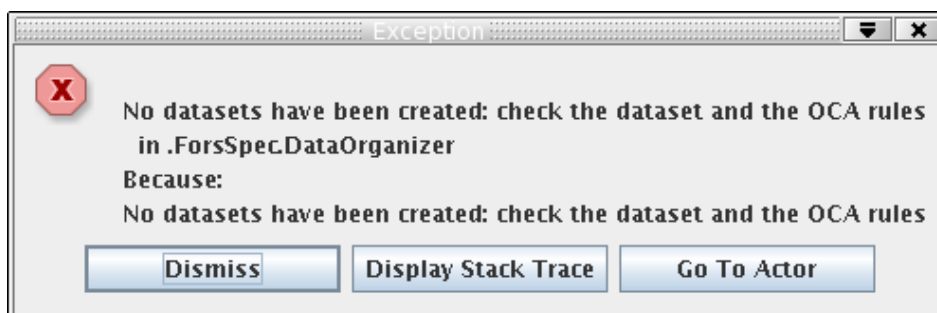

Figure 9.1: *TheDataOrganizer* interactive window reports an error “:No DataSets have been created, check the data set and the OCA rules.”.
- (b) **it fails with error message “:No DataSets have been created, check the data set and the OCA rules.”(see Figure 9.1.)**